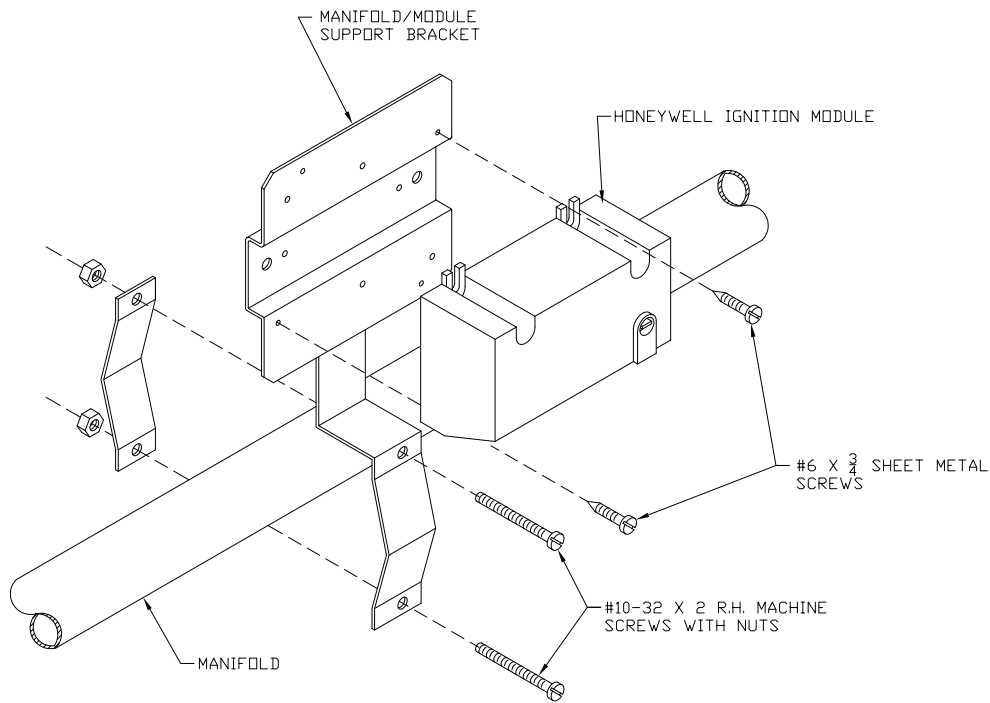

FIG. 28
3. INSTALLATION AND WIRING OF S8610M IGNITION CONTROL MODULE – Using two #10-32 x 2" MS, and nuts, install the S8610M module bracket on the manifold just to the right of the main burner with pilot, see Fig. 28. Using two #6 x 3/4" SMS, install the S8610M module on the bracket. Connect the two wires from the Q3481B pilot to the S8610M module as shown on Fig. 42, 43 or 44.